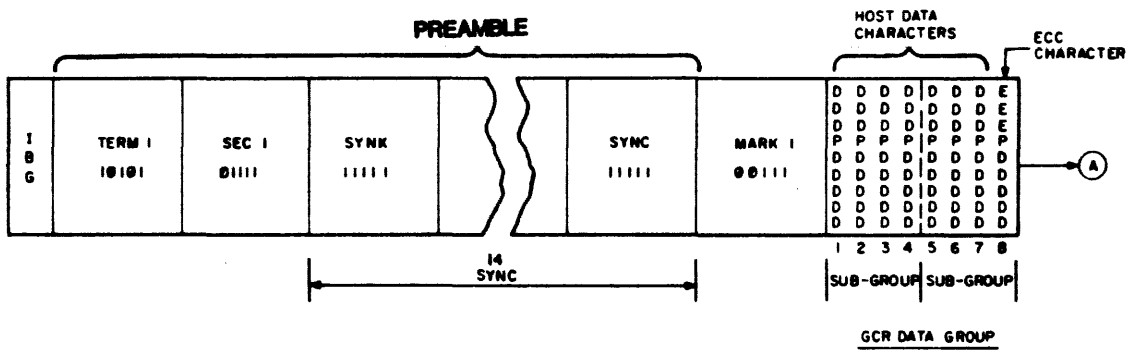

Figure 4-30A. DETAIL OF GCR TAPE FORMAT
- o PREAMBLE (see Figure 4-30A) - A group of signals recorded at the beginning of a block for circuit synchronization. The preamble contains 16 subgroups, the first of which is the Terminator (TERM) control subgroup. The terminator subgroup is the first (and last) subgroup of a record. The next subgroup is the Secondary (SEC) control subgroup which is the second (and next to last) subgroup of a record. Next, 14 synchronization subgroups are written which complete the preamble.
Under control of the Formatter logic, the preamble, postamble and resynchronizing codes are generated in the correct sequence, and the data is manipulated to produce a correctly coded data block. After the preamble is generated, data from the Interface Module is clocked through the Formatter input circuitry to the 4/5 Converter where 4 bytes are converted to 5 bytes. After every seventh byte, an ECC character is generated by the logic from the incoming data and sent to the 4/5 Converter. At the end of data transfer, with the Last Word signal from the Interface Module, padding characters of zero value are added to the final group to make a complete group. Cyclic Redundancy Check (CRC) and Auxiliary Cyclic Check (ACRC) characters are generated from the incoming data and inserted in the data block in the appropriate locations. At the termination of data transfer, a postamble is generated and placed at the end of the data block (see Figures 4-30A, 4-30B, 4-30C, and 4-30D).